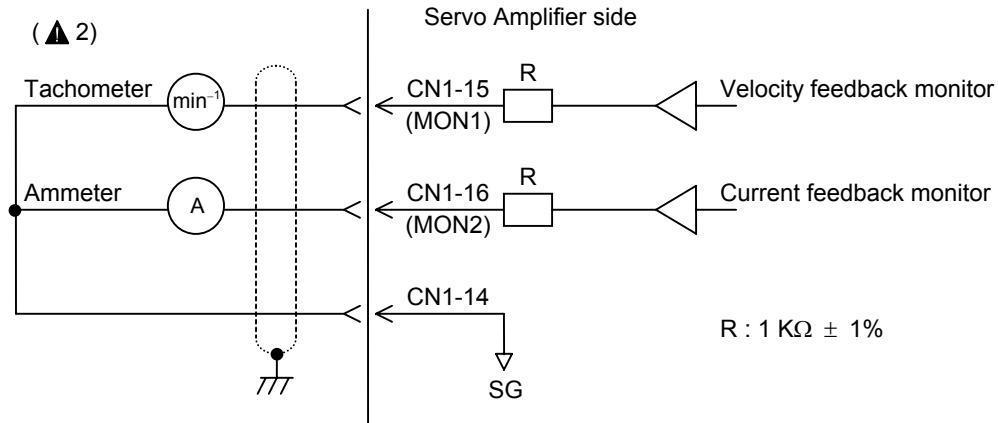

Fig. 9-12 (5) Typical Connection of Monitor and Measuring Instrument
When connecting a measuring instrument to the velocity or current feedback monitor, use a both-swing type CD voltmeter and connect it as in Fig. 9-12 (5).